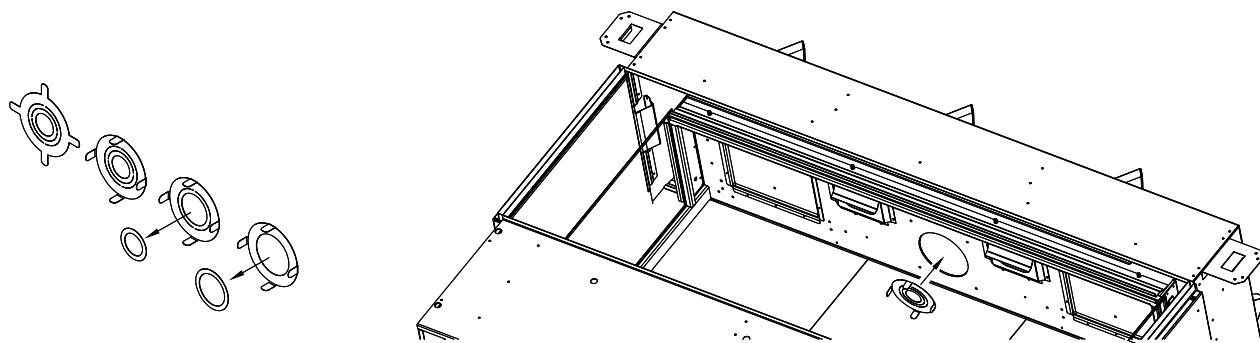

Figure 10.4 - Vent Restrictor Plate Installation
Vertical terminations may display an active, compact flame. If this appearance is not desirable, a restrictor plate may need to be installed or modified after vent termination installation. Access to the vent exit for restriction can be reached through the fireplace ceiling. See Figure 10.4
3. Insert restrictor plate into the 5” (127mm) exhaust pipe with the tabs pointing downward. See Figure 10.4.